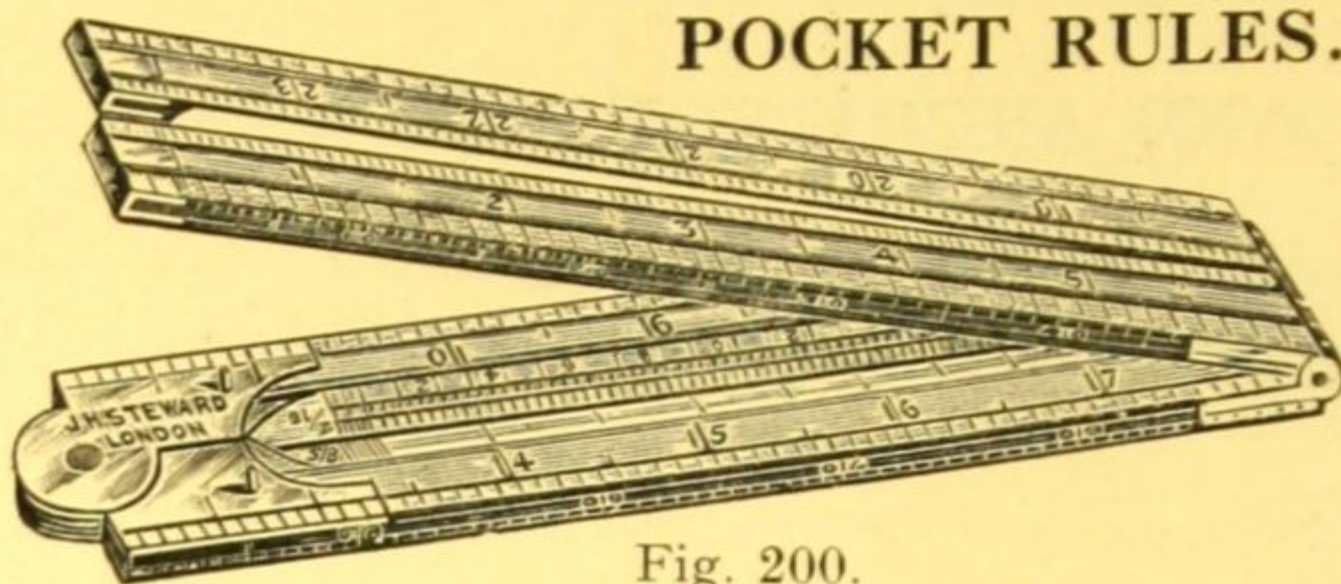

Fig. 200.
**2-feet 4-fold Pocket Rule**, folding to 6-inches with 4 bevelled edges; divided inches to  $\frac{1}{8}$ ,  $\frac{1}{16}$ ,  $\frac{1}{32}$ ,  $\frac{1}{64}$ ths and centimetres to millimetres on the faces; with 8 open divided scales on bevelled edges  $\frac{1}{4}$ ,  $\frac{1}{8}$ ,  $\frac{1}{2}$ , 1-inch,  $\frac{3}{8}$ ,  $\frac{3}{4}$ ,  $\frac{1}{5}$ ,  $\frac{1}{10}$ -inch. Fig. 200.